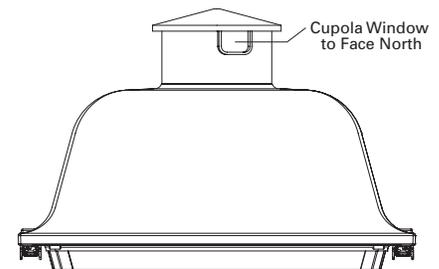

FIG. 5
3. Rotate the cupola until the window in the cupola is facing in a northerly direction. Line up the north arrow of the photocontrol receptacle with the window in the cupola. Retighten the screws and install the photocontrol. **(FIG. 5)**